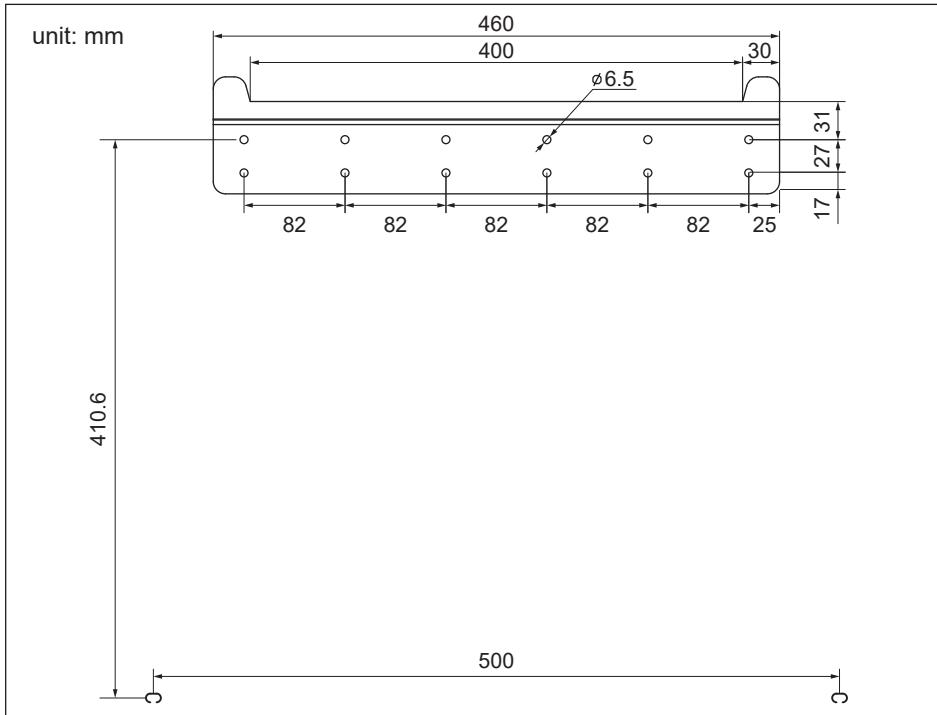

Figure 3-4: Mounting bracket dimensions
Refer to **Figures 3-4** to **Figure 3-8**.
2. Orient the wall bracket (**Figure 3-4**) horizontally (perpendicular to the floor).